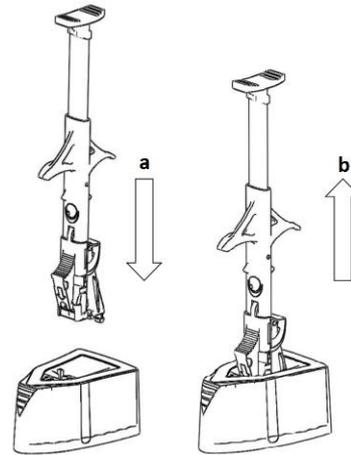

Fig. 1
3. Align the arrows on the injector's red stopper and the open wet IOL container for correct positioning. Insert the injector with a firm downward motion as shown in Fig. 1/a until it clicks.
4. Pull out the injector as shown in Fig. 1/b and check that the lens holder is loaded in the injector.